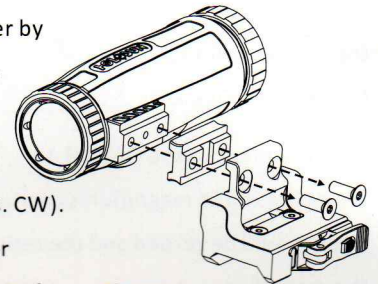

Figure 4
- 2) Remove the two screws at the bottom, then add or remove the spacer between the mount and the magnifier, as shown in figure 4.